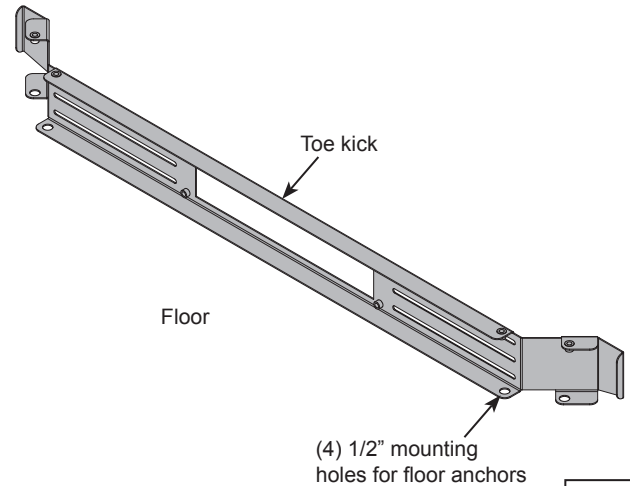

Figure 9A
1. Position the toe kick on the floor in the preferred final lectern location. **Figure 9A.**
2. Mark the (4) mounting hole locations onto the floor.